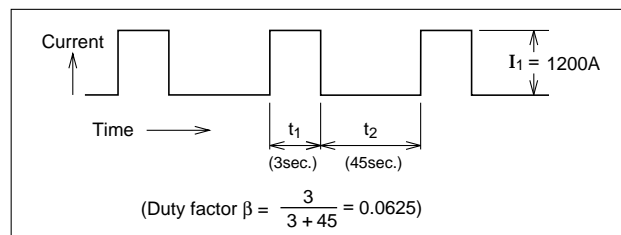

Fig. 7.4 Welder Intermittent Current
The temperature rise of the MCCB and wiring depends on the thermal-equivalent continuous current. To convert the welder intermittent current into a thermal-equivalent continuous value (I_e), consider the current waveform (Fig. 7.4); load resistance (R) gives power dissipation:
In the example of Fig. 7.4: